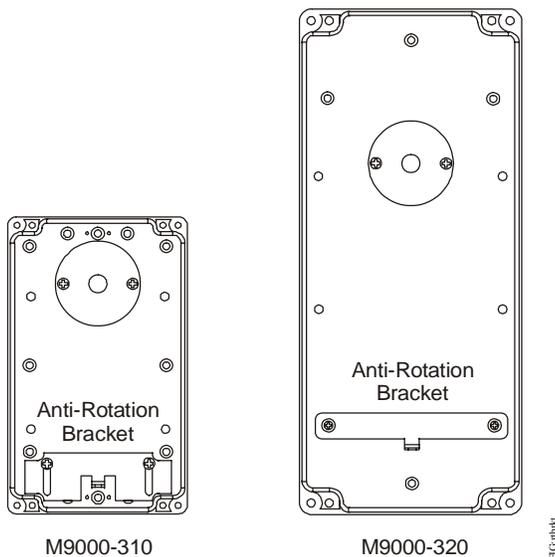

Figure 3: Proper Orientation of the Anti-Rotation Bracket
2. Orient the anti-rotation bracket onto the enclosure as illustrated in Figure 3.